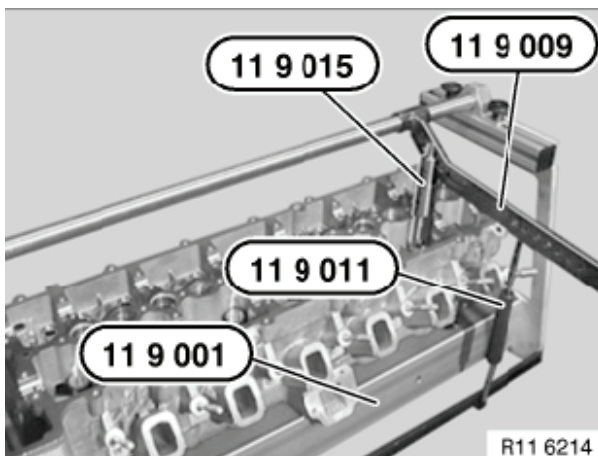

Figure 5-32
4. Secure cylinder head to special tool OEM No. 11 9 001 (**Figure 5-32**).
5. Install spring compressor OEM No. 11 9 015 on lever OEM No. 11 9 009 (**Figure 5-32**).
7. Press down to compress valve spring and lock in place with special tool OEM No. 11 9 011 (**Figure 5-32**).